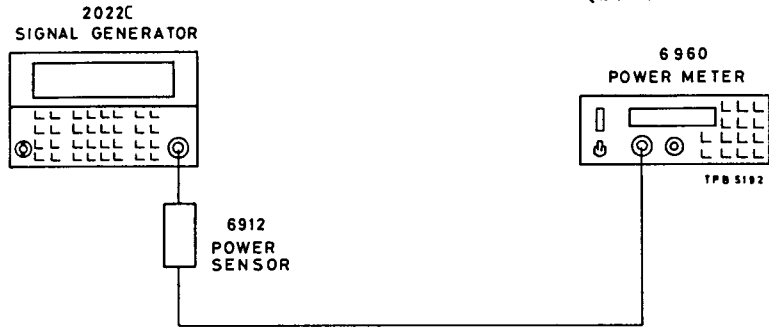

Fig. 5-3 Test gear arrangement to check RF output
(1) Connect test equipment as shown in Fig. 5-3 and set the 2022C controls as follows :